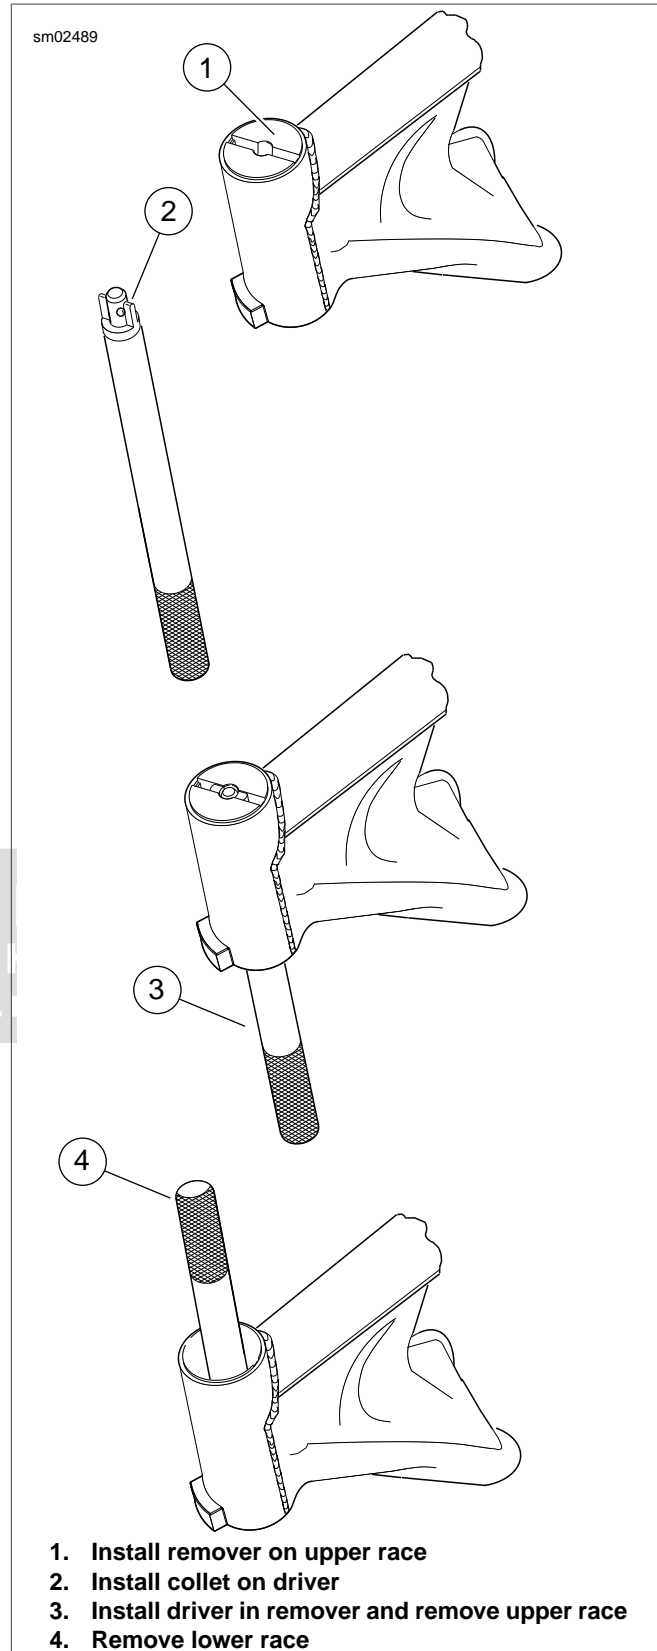

Figure 2-91. Remove Races
1. See Figure 2-91. With the tapered side down, seat the two-piece STEERING HEAD BEARING RACE REMOVER (Part No. HD-39301-A) (1) on the upper bearing race leaving a gap in the middle.
2. Install the collet (2) on the UNIVERSAL DRIVER (Part No. HD-33416).
3. Insert the driver at the bottom of the steering head tube (3), and while holding the remover tool on the race, center the collet in the gap. Tap the driver to remove the upper race.
4. Reverse the tool and repeat the procedure (4) to remove the lower bearing race.